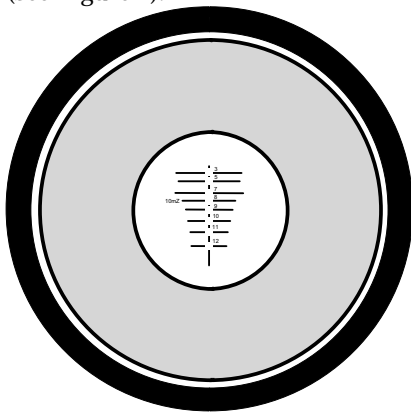

**Figure 1. Maximum Field of View, Correct Eye Relief.**
5. Open rear lens cover (2) and front lens cover (3). Turn each cover inside out to stow the lens covers while the telescope is being used.
- a. If the target scene fills the telescope to provide the maximum field of view, the correct eye relief has been attained (see Figure 1). No further repositioning of the telescope on the Picatinny rail is required.
- a. Loosen the torque limiting knob (1) and move the telescope in the appropriate direction (forward or backward) until you achieve the correct eye relief.
- b. Repeat steps 1 through 5 until the correct field of view is obtained as shown in Figure 1.